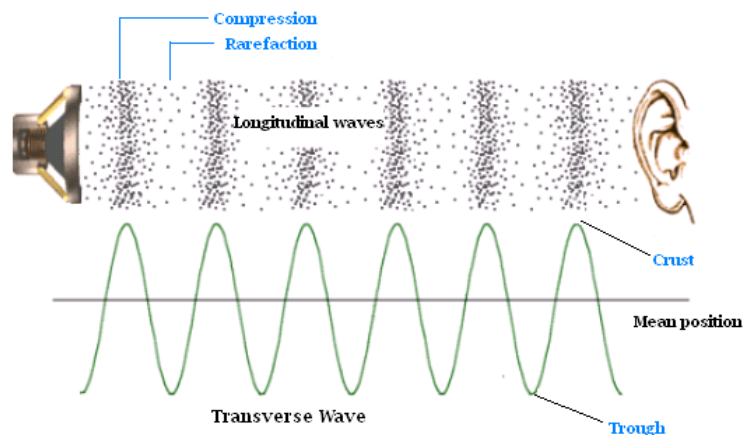

Figure S-1: Cartoon representation of a longitudinal sound wave and illustration in terms of a transverse wave. From Reference [5].
- Sound is a longitudinal, mechanical wave (see Figure S-1).